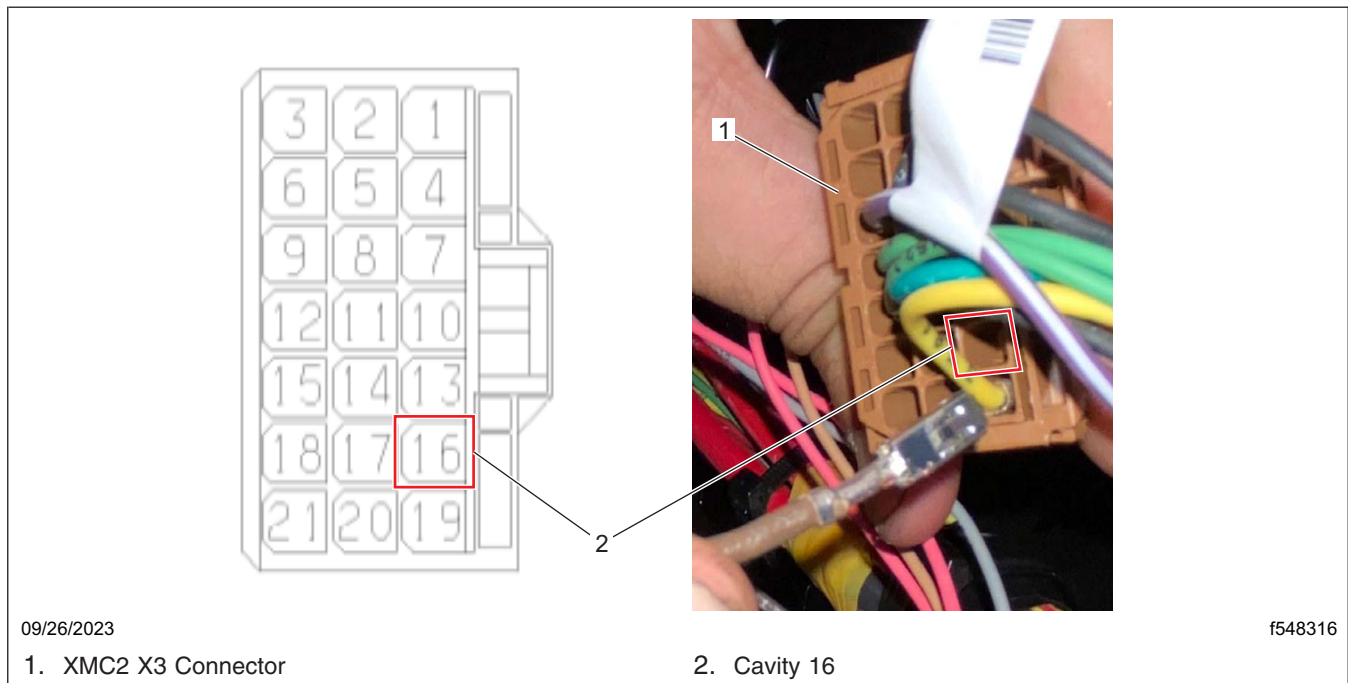

Fig. 48, Inserting the Brown Wire into Cavity 16
- 13.6 Insert the brown wire from the harness into the cavity 16 of X3 connector. See Fig. 48.